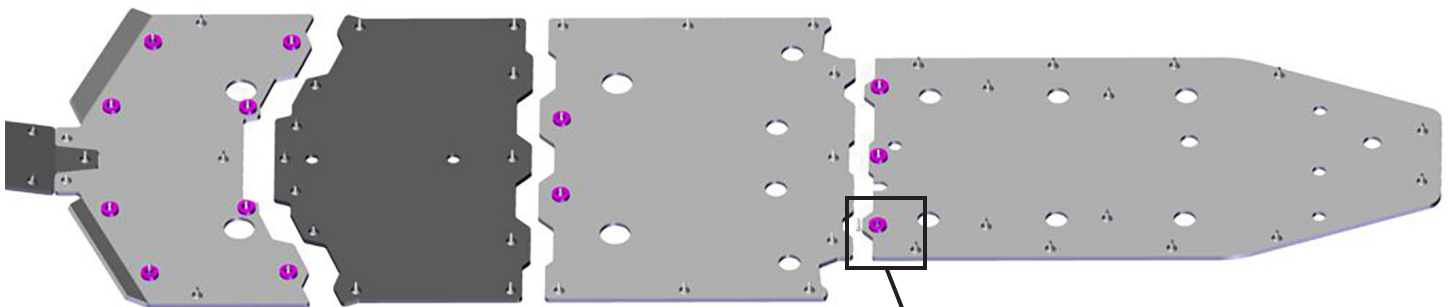
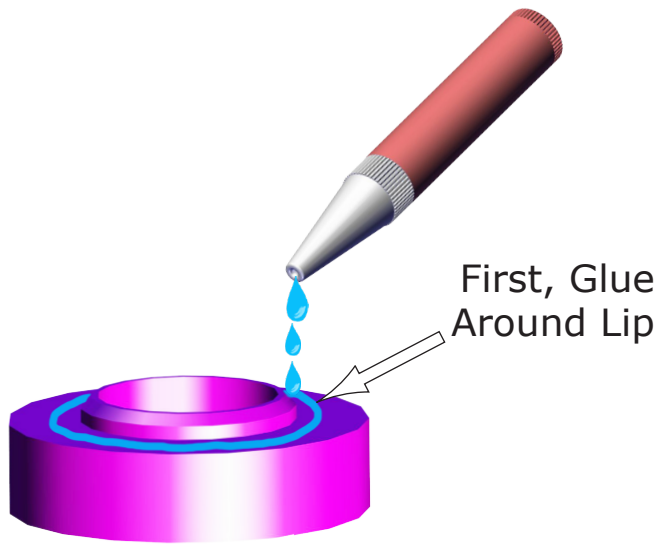

Fig.2a
Fig.3a
2. Before installing any of the skid plates onto your machine, you will need to **Install** the **Spacers** **Onto** the **Plates** prior to installing them. This will greatly help your installation with less frustration. Below you will see where these **Spacers** go on the plates that take them. In your kit we have also provided some **Instant Bond Adhesive** for you to **Glue** the **Spacers** **onto** the **Plates**. By gluing them in place, you no longer have to try to hold them up behind the panel while trying to thread the screws in from the opposite side. Each Spacer has a **Extended Lip** that fits into the holes of the plate, centering it to the hole. See **Fig.2a-b**. Before placing, you will need to glue the Spacer first.
3. Before you place the Spacers in the hole locations, locate the **Instant Bond Adhesive** in your kit and **Glue Around the Lip** of the Spacer as shown in **Fig.3a**. Then **Install the Spacer** into one of the hole locations shown in **Fig.2a**. Do this with each Spacer and insert only into the holes shown where the colored spacers are at in **Fig.2a**.